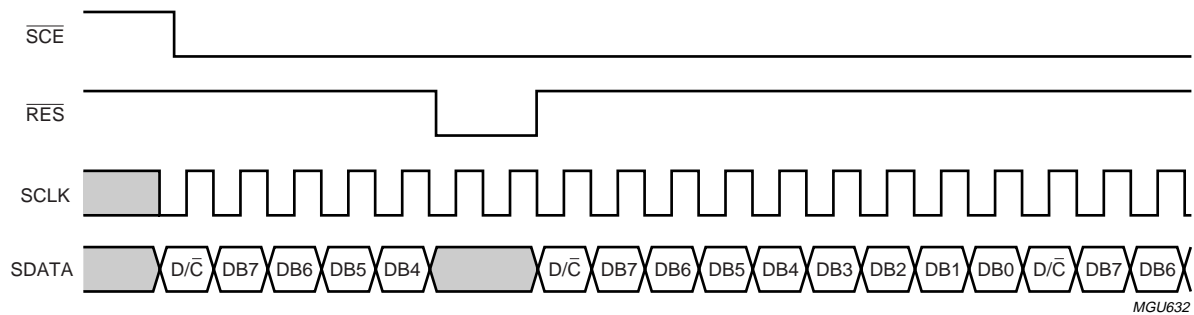

Fig.23 Serial interface (3-line), write mode - interrupted by reset ( $\overline{RES}$ ).
- A reset pulse with  $\overline{RES}$  interrupts the transmission and the data being written into the RAM may be corrupted. The registers are cleared. If  $\overline{SCE}$  is LOW after the rising edge of  $\overline{RES}$ , the serial interface is ready to receive the  $D/\overline{C}$ -bit of a command/data byte (see Fig.23).